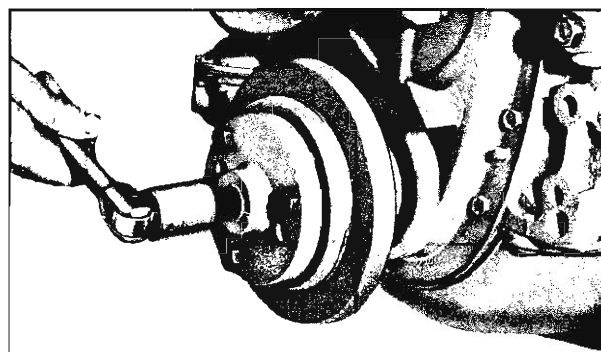

Fig. 8W—Removing Harmonic Balancer
6. Install Tool J-6978 to harmonic balancer and turn puller screw to remove balancer from crankshaft (fig. 8W).